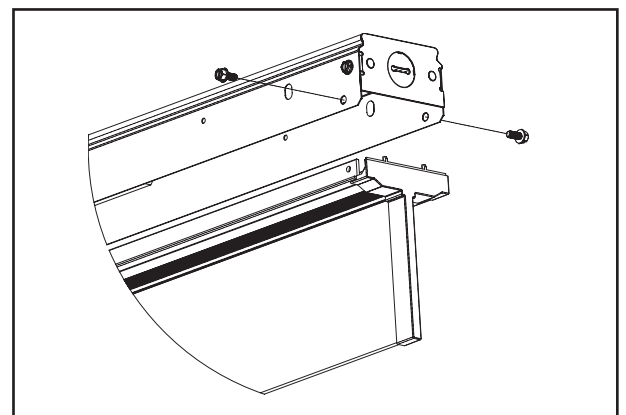

Figure 1.
2. Remove the 4 screws holding the heat sink to the channel, 2 screws on each end of fixture (Figure 1). Allow heat sink assembly to hang by the lanyards.